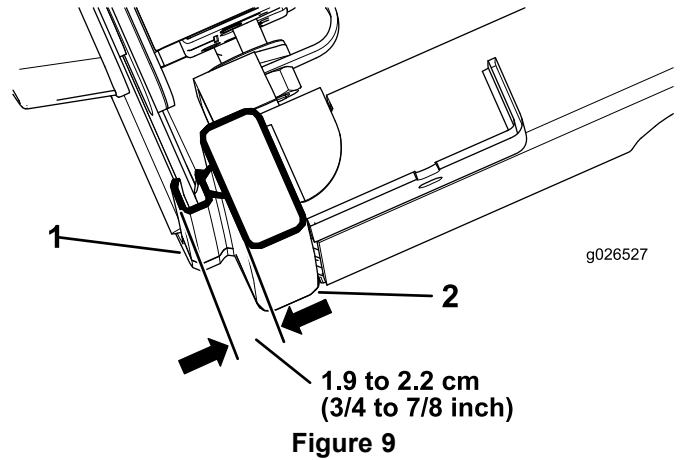

Figure 9
3. Close the door completely and measure the height of the bubble seal to the sealing surface of the cab rail, and ensure that the measurement is 1.9 to 2.2 cm (3/4 to 7/8 inch) as shown in Figure 9.